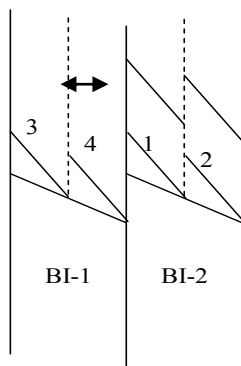

Fig. 6. Panel and bark allocation for CUT
### Method of introducing CUT (Fig. 6)
- Commence just after the completion of BI-1 (C) panel and before intensification.
- The 1st quarter panel (1 of the Fig. 6) should be attached to Poikanu.
- In order to avoid any waste of bark, all upward cuts should be commenced at the same height where lower cuts had been introduced (Fig. 6).